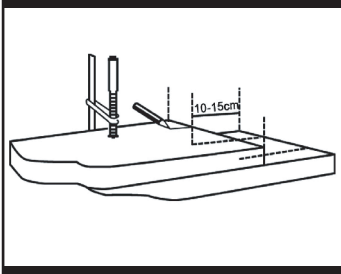

Fig. 5
2. MARKING THE WORKPIECES (See Fig.5)